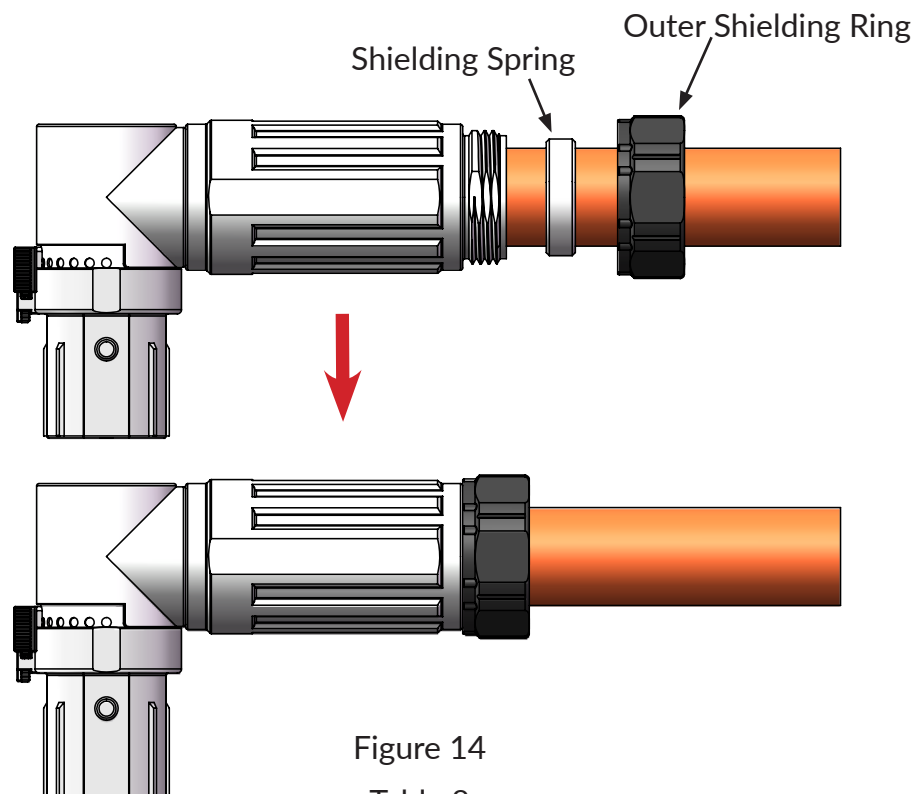

Figure 14
4) As figure 14 shown, tighten the hex nut to adapter shell with 37mm spanner, recommended torque is 6~8N.m, rubber sleeve applicable range see table 8;